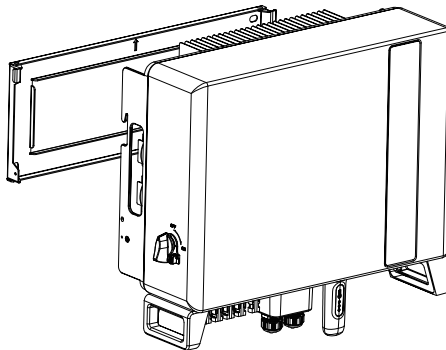

Figure 4.4 Wall Mount Bracket
2. Lift up the inverter (be careful to avoid body strain), and align the back bracket on the inverter with the convex section of the mounting bracket. Hang the inverter on the mounting bracket and make sure the inverter is secure (see Figure 4.4)